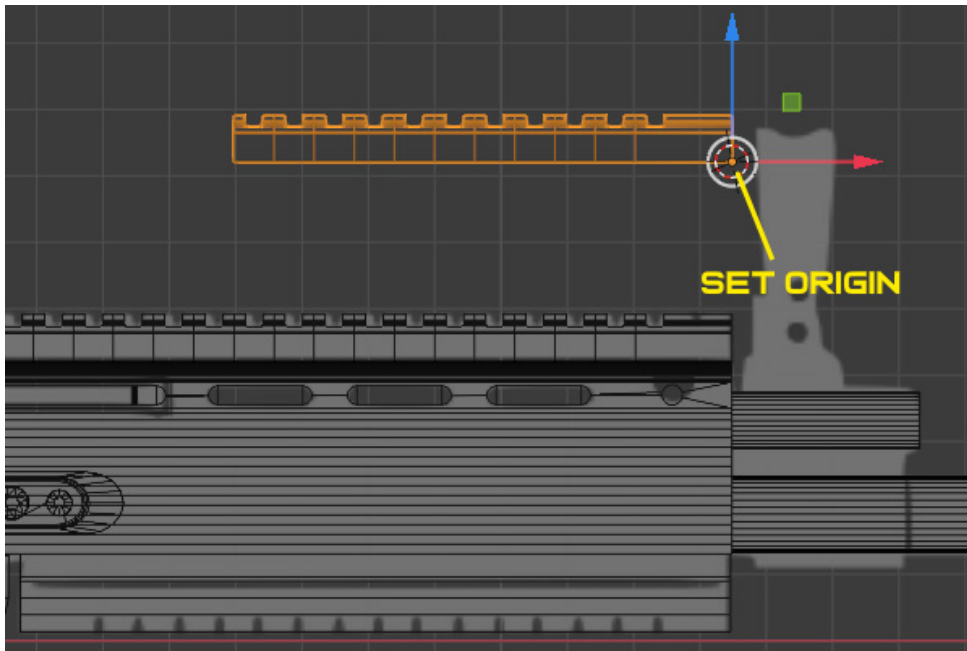

Figure 3.39 – Duplicating the rail
6. Duplicate one part of it and separate it into a new object. This part will be used to create the side rails, so we want it to be short. Try to duplicate approximately the same length as in *Figure 3.39*. Place the 3D Cursor between the two vertices at the end and set the origin to that point.